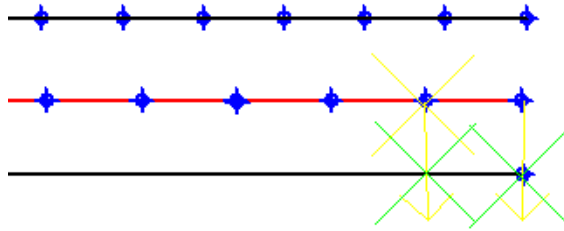

Figure 2-56 Cross-marks indicating the location of the point
6. Click on the line object just below the first point on the alignment; a green cross-mark indicating the position of the point is displayed on the screen, refer to Figure 2-56. Also, you are prompted to specify the point description.
13. Specify the description and the elevation as specified in steps 7 and 8; a point is displayed on the line, refer to Figure 2-56.